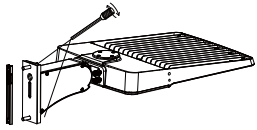

Figure 2-1
2. DIRECT MOUNTING (DM)
Step1: Loosen the screws on the bracket with a screwdriver and take off the bracket, Figure 2-1;